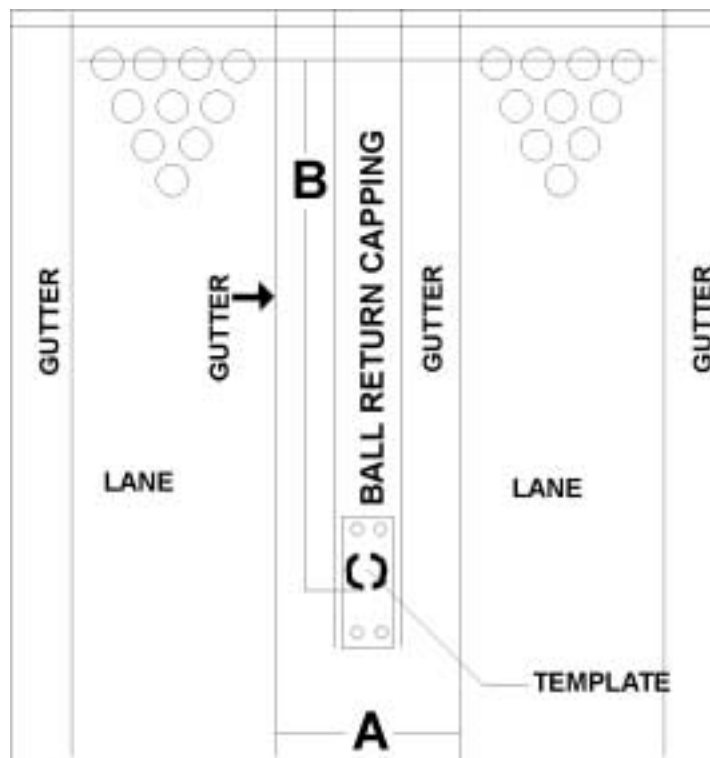

Figure 5-1 Pinsensor Mounting Location
1. **MEASURE** the distance between the inside edges of two adjacent (even/odd) lanes where the gutter begins. This is distance "A" as shown in Figure 5-1.
- From Table 5-2, FIND the range that corresponds to distance "A" of Figure 5-1. SELECT the corresponding distance "B", which is the distance from the center of the 7 - 10 pin line to the back of the pinsensor.